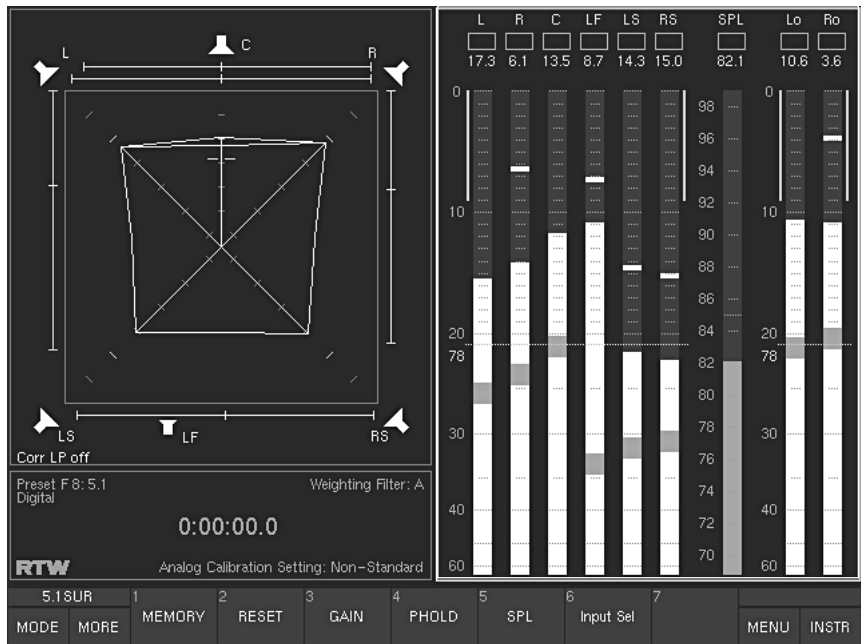

Fig. 5-6: The functions of the PPM instrument displayed in the Toolbar
(Button/Key 1, see Fig. 5-6)
(Button/key 2, see Fig. 5-6)
(Button/key 3, see Fig. 5-6)
(Button/key 4, see Fig. 5-6)
(Button/key 5, see Fig. 5-6)
(Button/key 6, see Fig. 5-6)